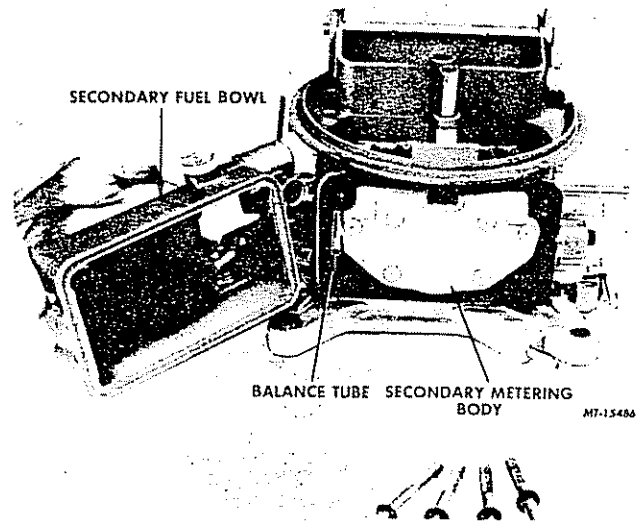

FIG. 33 — REMOVAL OR INSTALLATION OF SECONDARY FUEL BOWL (MODEL 4160)
14. Remove secondary fuel bowl from carburetor body (Fig. 33).